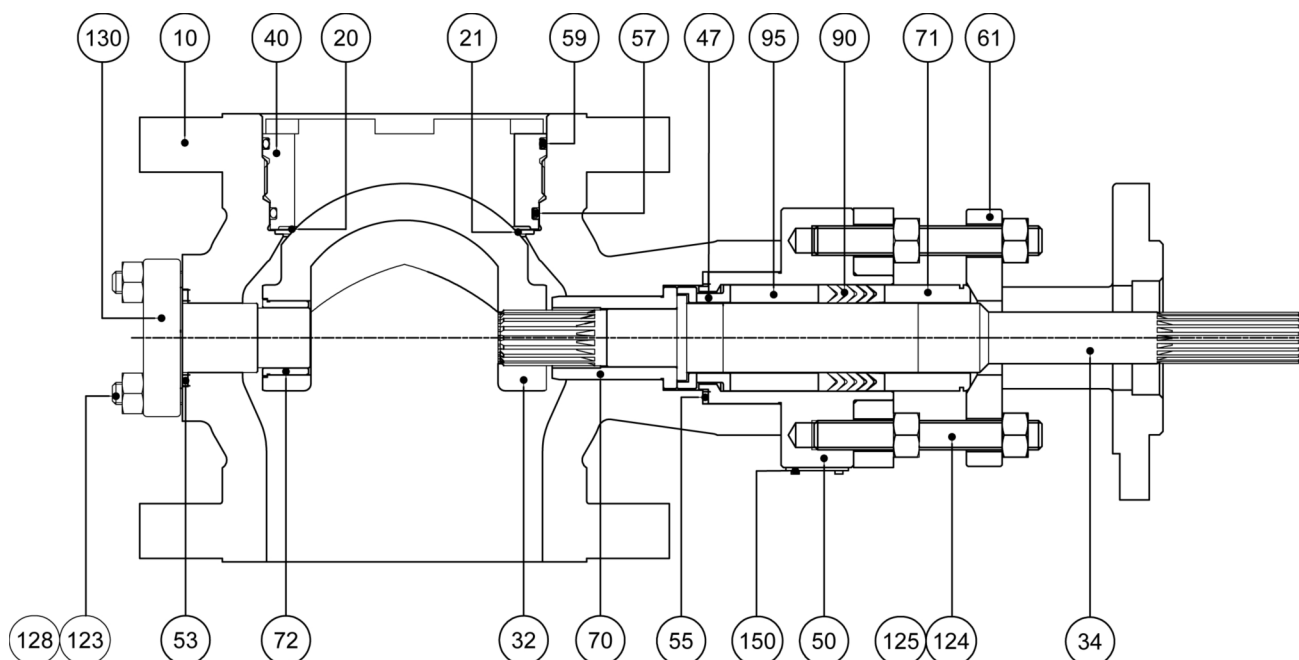

Figure 2: VxL Valve Body Sub-Assembly
For disassembling the VxL valve, refer to Figures 2, 3 and 4 and proceed as follows:
To reassemble the VxL valve body (except the seat), refer to figures 2, 3, 4 and 5 and proceed as follows:
- Install the shaft bearing, positioning it on the limiting shoulder of the body (See Figure 2).
- Position the spacers, the packing set and the packing follower in the bonnet as illustrated in Figures 2 and 5.
To reinstall the VxL valve seat, see Figures 2, 6 and 7 and proceed as follows: